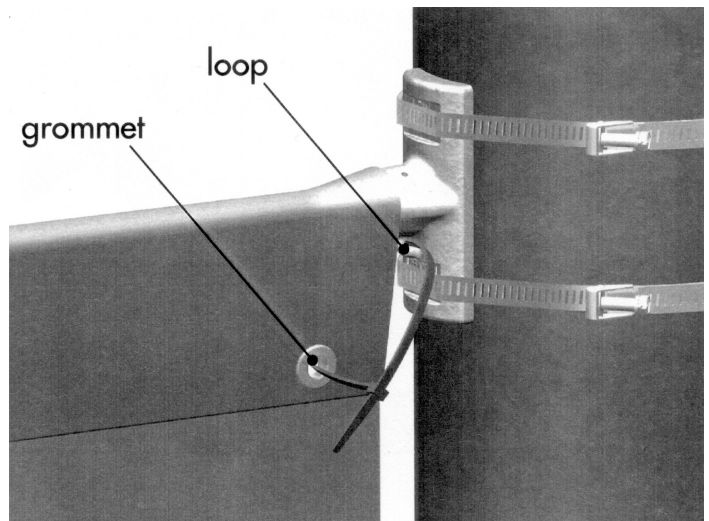

Figure 2
- 6 Insert the nylon cable tie or #18 gauge wire through grommet(s) in banner(s). Either put through the loop in the casting(s) or wrap around the utility pole and secure. **See Figure 2.** This must be done to secure the banners to the pole.